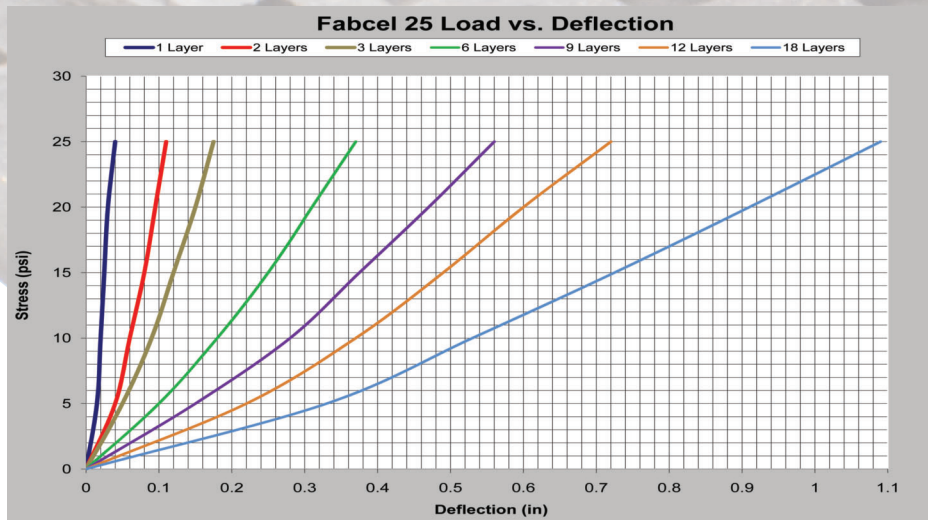

Figure 2 Load Deflection
**Static:** The static spring rate factor is determined from the slope of the load deflection curve (shown in Figures 2, 5, 8 and 11) or estimated from the dynamic spring rate factor. The average static spring rate is approximately 40% of the dynamic rate.